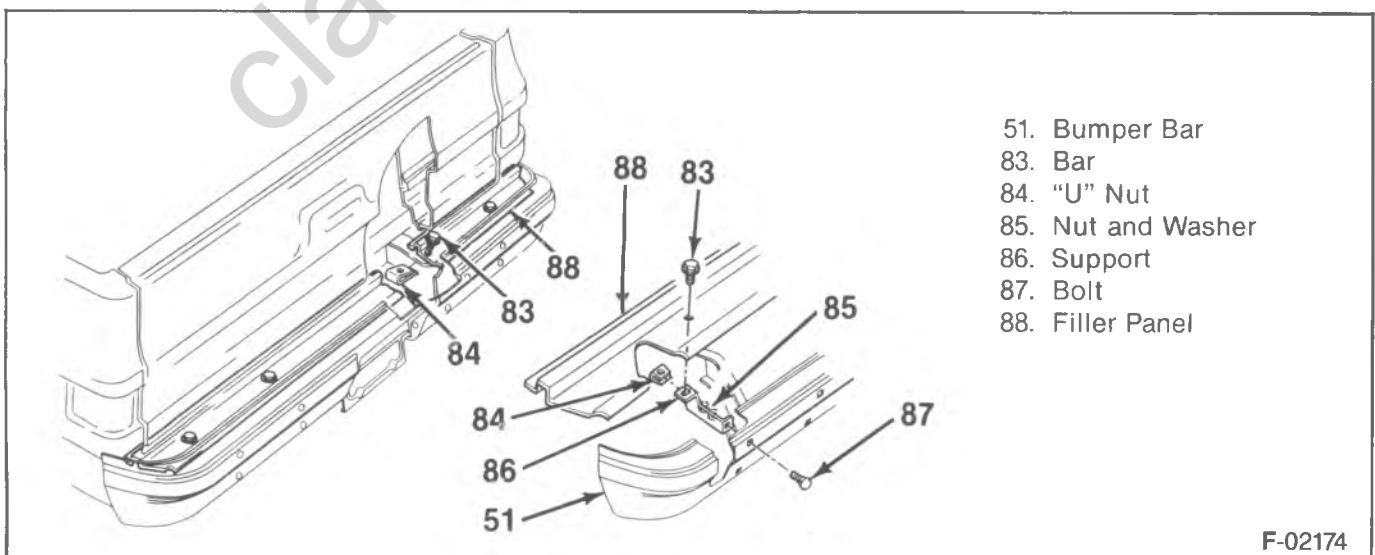

Figure 9—Rear Bumper Filler Strip
1. Brace to bumper nuts (71).
2. Bracket to bumper nuts (74).
4. Filler panel bolts (figures 9 and 10).
3. Bumper bolts to the bumper (82).
5. Filler panel supports (Utility vehicle only) (figure 9).